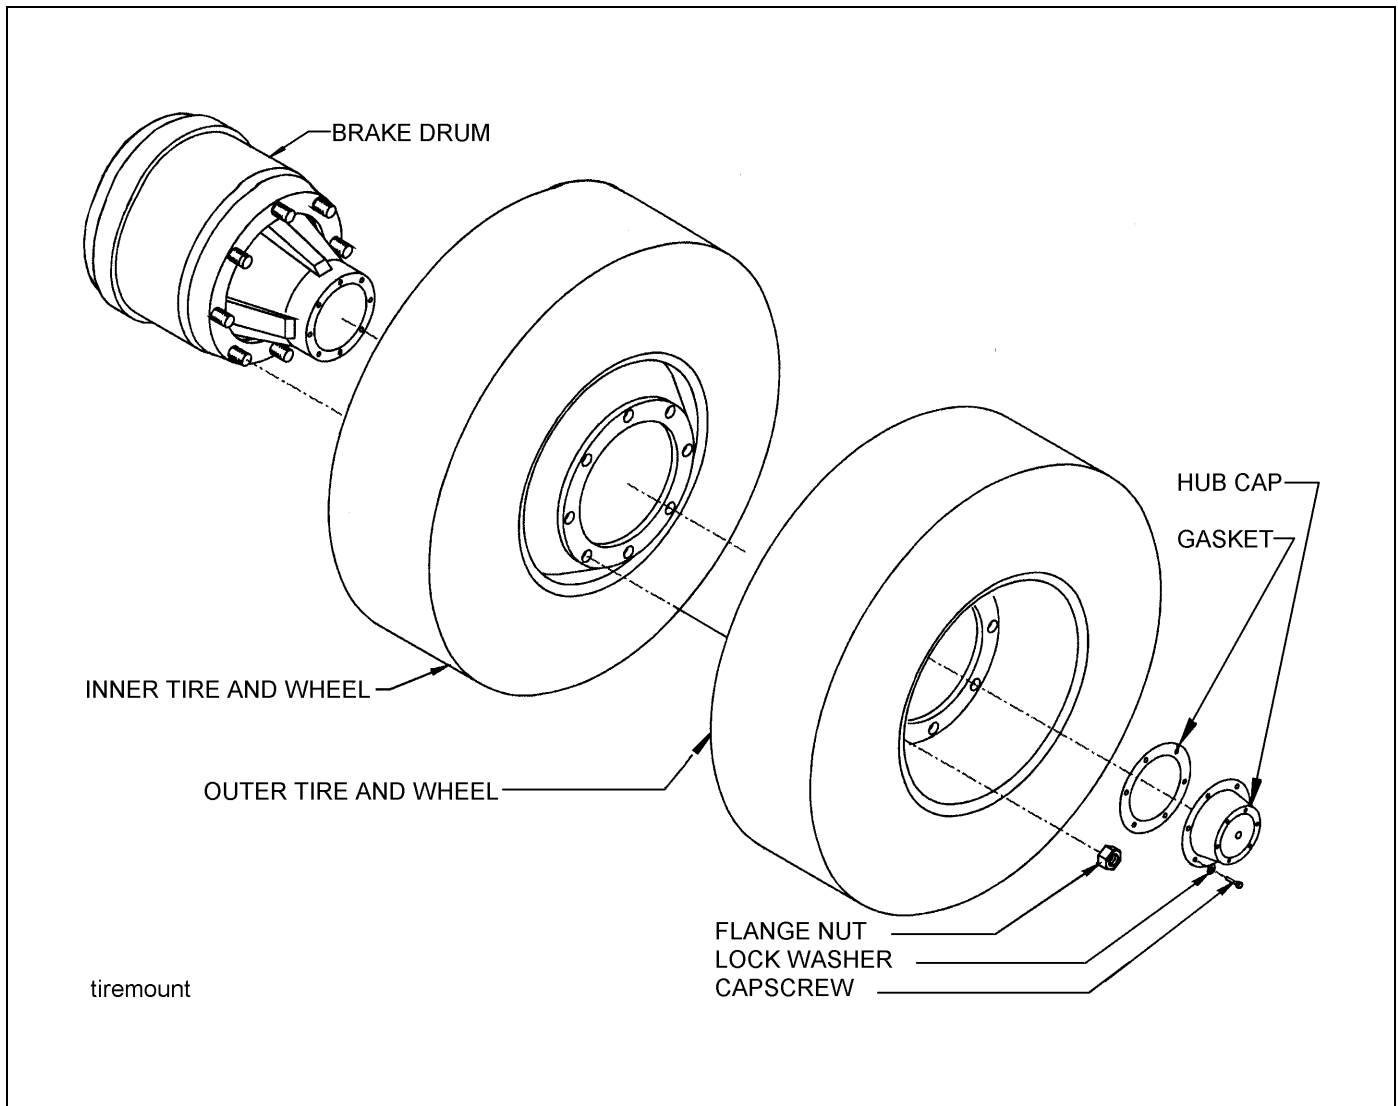

Figure 4-14: Mounting Tires and Wheels
1. Make sure that all mounting surfaces are clean and free of rust, dirt or paint. A wire brush may be used to clean these surfaces **(See Figure 4-14.)**